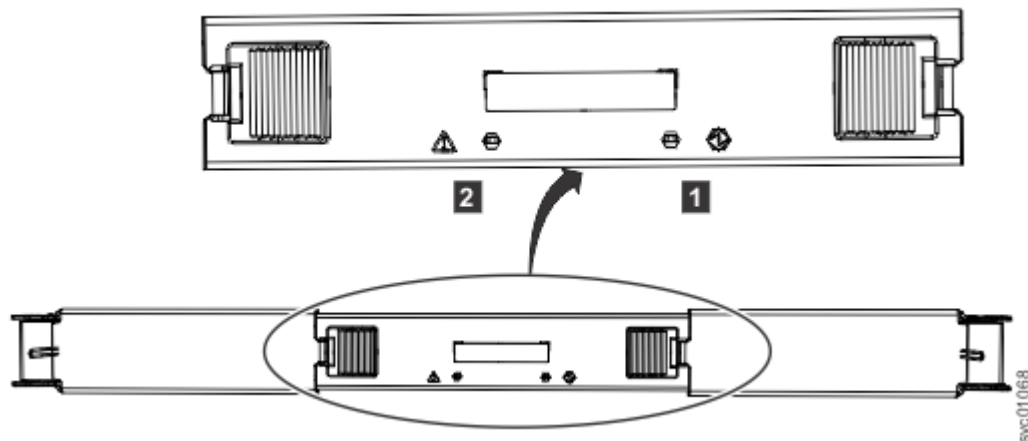

Figure 65. LEDs on a secondary expander module
2. Identify the secondary expander module to be replaced; Figure 65 on page 64 shows the LEDs on top of a secondary expander module.